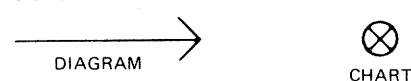

Fig. 5 - Male Connector Codes
- Male connector symbol is illustrated in Figure 5. The symbol used for the diagram and chart is shown.